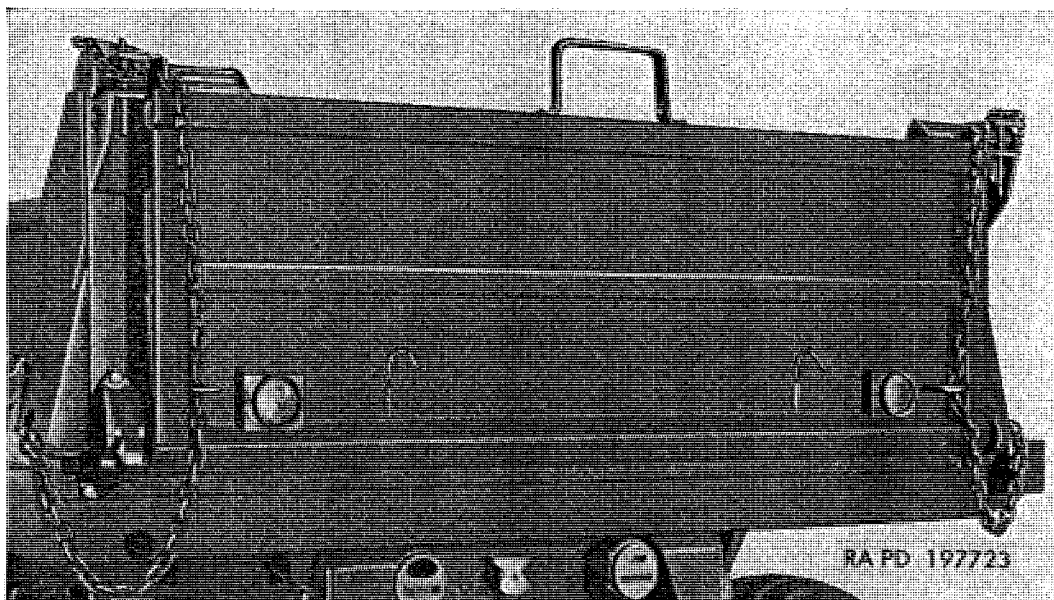

Figure 47. End gate in closed position.
- pins engage upper latches. Insert chained pin through each upper latch to hold end gate secure. Pull chain down on each side through gate chain retainers. Pull end of each chain firmly through lower chain retaining holes (fig. 47).